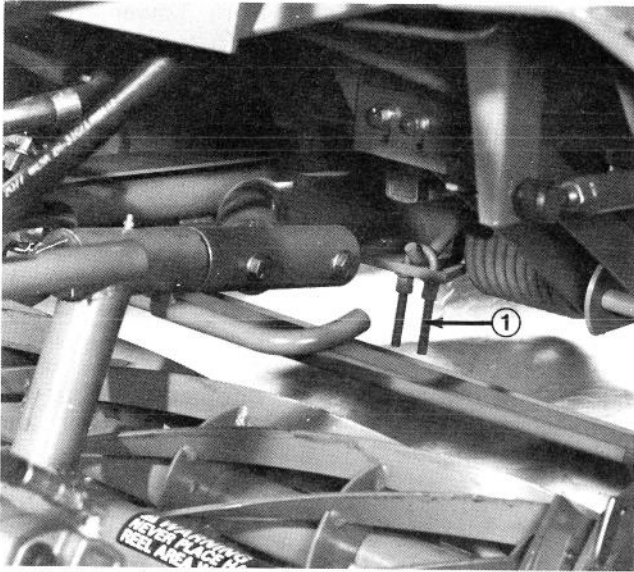

Figure 55
**Center push arm is spring loaded. Loosen the nuts on rear counter-balance U-bolt (Fig. 55) to decrease spring tension on center push arm when removing cutting unit.**